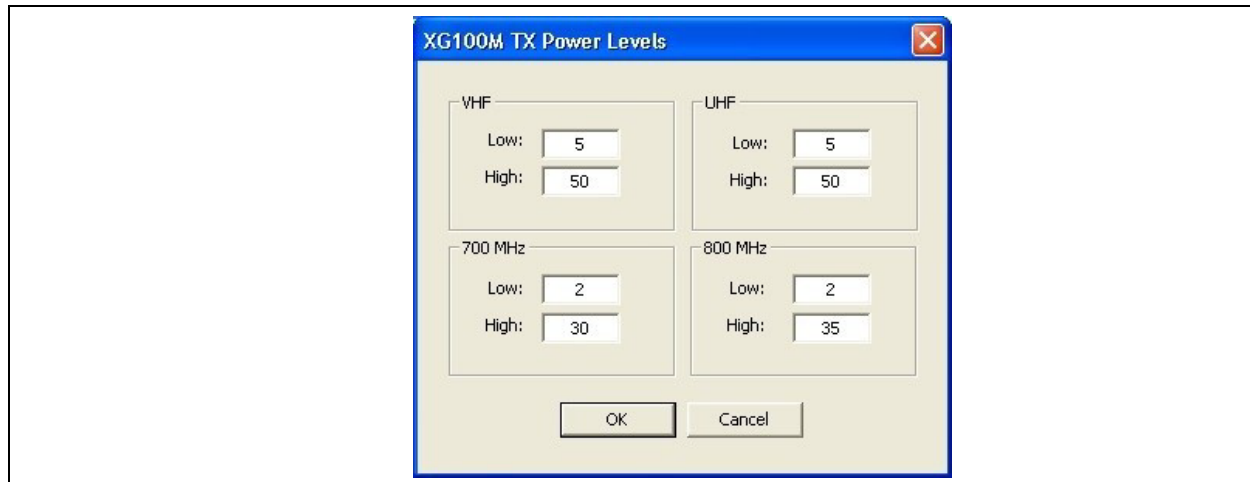

Figure 11-1: XG-100M Tx Power Levels Dialog Box with Required Settings
6. In the System Setup dialog box, click the General tab, then click the TX Power Levels button. This opens the XG100M TX Power Levels dialog box, as shown in Figure 11-1.
7. Verify all four RF bands have their high and low limits set as shown in Figure 11-1. If not, make the necessary change(s).